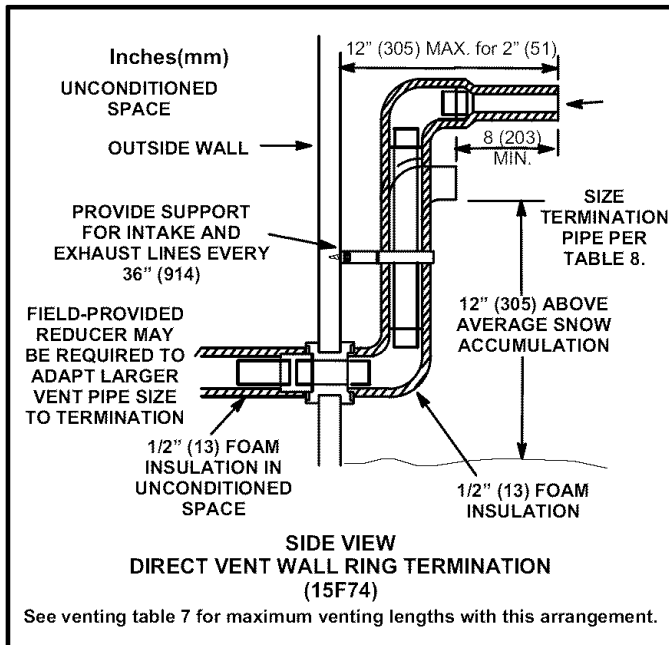

FIGURE 38
- 8 - If intake and exhaust piping must be run up a side wall to position above snow accumulation or other obstructions, piping must be supported every 3 ft. (.9m) as shown in figure 26. Refer to figure 38 for proper piping method. In addition, WTK wall termination kit must be extended for use in this application. See figure 41. When exhaust and intake piping must be run up an outside wall, the exhaust piping must be terminated with pipe sized per table 8. The intake piping may be equipped with a 90° elbow turndown. Using turndown will add 5 feet (1.5m) to the equivalent length of the pipe.